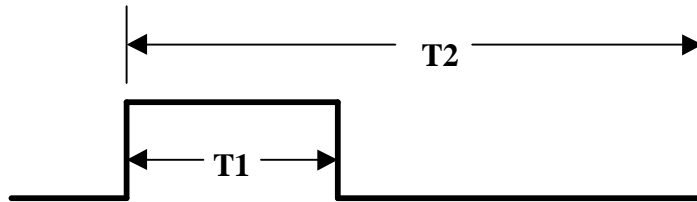

Figure 2 – Output Duty Cycle
2.3.3 Calculate Duty Cycle, ($T1/T2$) where $T1$ is the length of the “on” portion of the cycle and $T2$ is the length of the total cycle. See **Figure 2**.